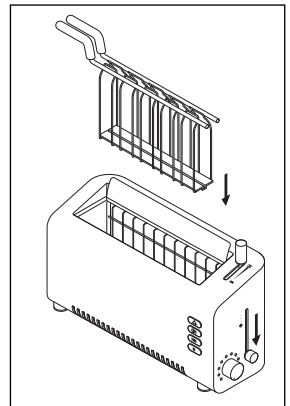

Fig.3
- 4 Lower the carriage lever and place the sandwich cage into the slot with the handle pointing to the opposite end to the controls (Fig 3).